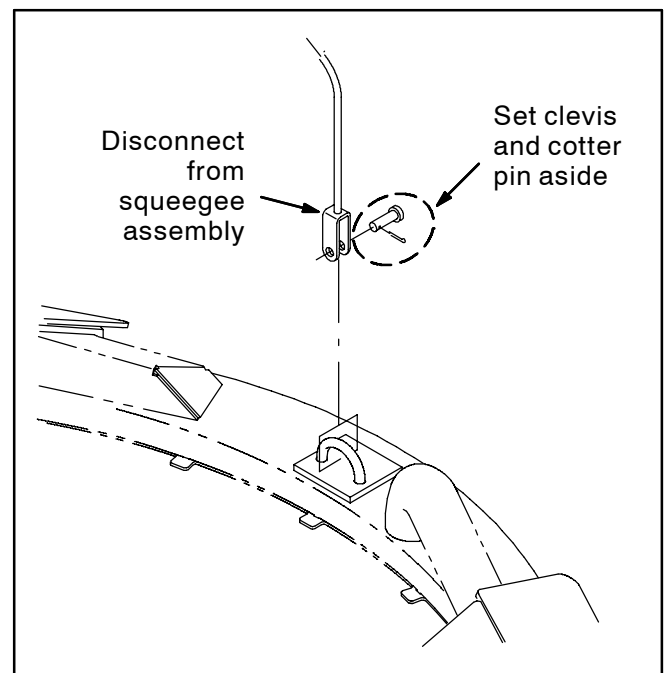

FIG. 2
3. Disconnect the squeegee lift cable at the center of the rear squeegee frame. Set the clevis and cotter pins aside. Refer to Fig. 2.
9. Use the saved cotter and clevis pin to connect the squeegee lift cable to the new squeegee assembly. Refer to Fig. 2.